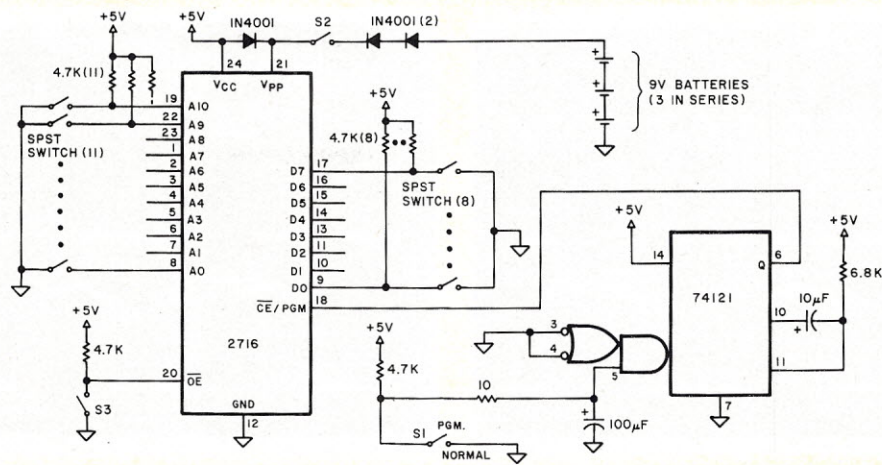

Fig. 1. 2716 Programming Circuit.
Fig. 1 shows a circuit you could wire on a prototyping socket or on your Kilobaud Classroom console for programming a 2716. To be successful, you must make sure the circuit is correct, and also go through the right procedure in the right order.
3. Close switch S2 to apply between 24 and 26 volts to Vpp (pin 21). Less than 30 mA is required, so not much of a power supply is needed. In Fig. 1, three 9-volt batteries in series, plus two 1N4001 silicon diodes also in series to drop the resulting 27 volts back to about 25½ volts, are an acceptable substitute for a separate power supply.
Though the above procedure will work, do everything you can first to find someone who will program the 2716 for you. If you already own a computer, then a 2716 programmer that works with that computer may be a reasonable investment. As an alternative, the circuit of Fig. 1 can be easily interfaced to three parallel output ports (used instead of switches) to automate the entire process.